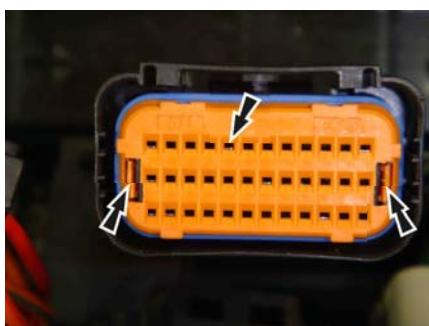

Fig. 3
4. **Remove the orange cap by pressing the small orange tabs on the side apart and pulling the orange cap off. See Fig. 3**